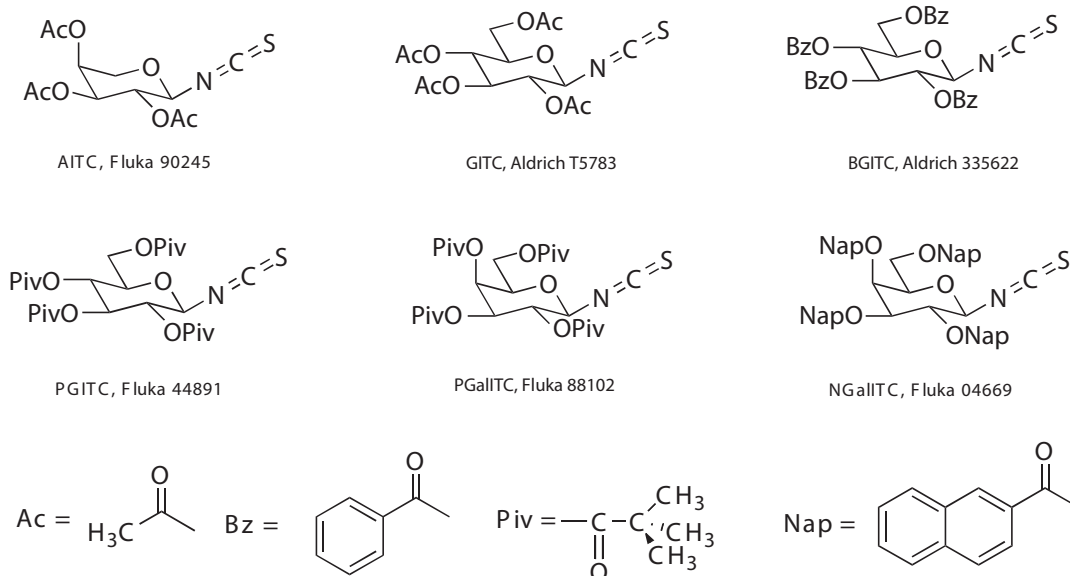

Figure 1 Structure formulas of isothiocyanate derivatisation reagents based on monosaccharide
In the first paper of this series (Analytix Nr. 1/2010), an efficient enantiomeric analysis of a series of alkyl oxiranes was described, using inexpensive reversed-phase columns as an alternative to high-cost so-called “chiral columns”. The analysis utilised isothiocyanate derivatisation reagents based on monosaccharide such as BGITC (Figure 1). The oxiranes were first converted by reaction with isopropyl amine into the corresponding  $\beta$ -amino alcohols. In a second step, these alcohols were derivatised with BGITC into the corresponding diastereomeric thioureas. Baseline separations were observed in all cases, thus establishing a highly efficient and general method for the analysis of this class of molecule.
The above reagents (Figure 1) have been shown to be also highly suitable for the enantiomeric analysis of amino acids of widely varying structures such as proteinogenic-, non-proteinogenic (non-coded)-, and non-natural- (1,2) amino acids as well as  $\alpha,\alpha'$ -disubstituted (3) and  $\beta$ -amino acids (4).